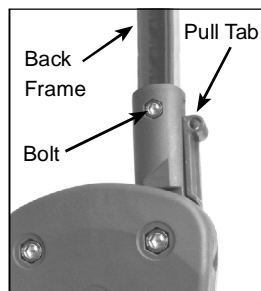

Figure 1
1. One by one, pull on each of the pull tabs and change the pivot angle to vertical (Fig. 1). Insert the U-shaped back support frame (B) into the top pivots; then calf support frame (E) to the bottom pivots with knee support bar (H). Fasten with provided bolts and nuts.
1. On the calf support frame, under the cover, locate the adjustment pull handle (G) for the Ultima or the adjustment pull tab (Fig. 1) on each leg for the Ultima Access. It is not necessary to remove the cover. Using both hands, grip the lever and calf support frame and squeeze together for the Ultima or pull out the pull tabs for the Ultima Access.